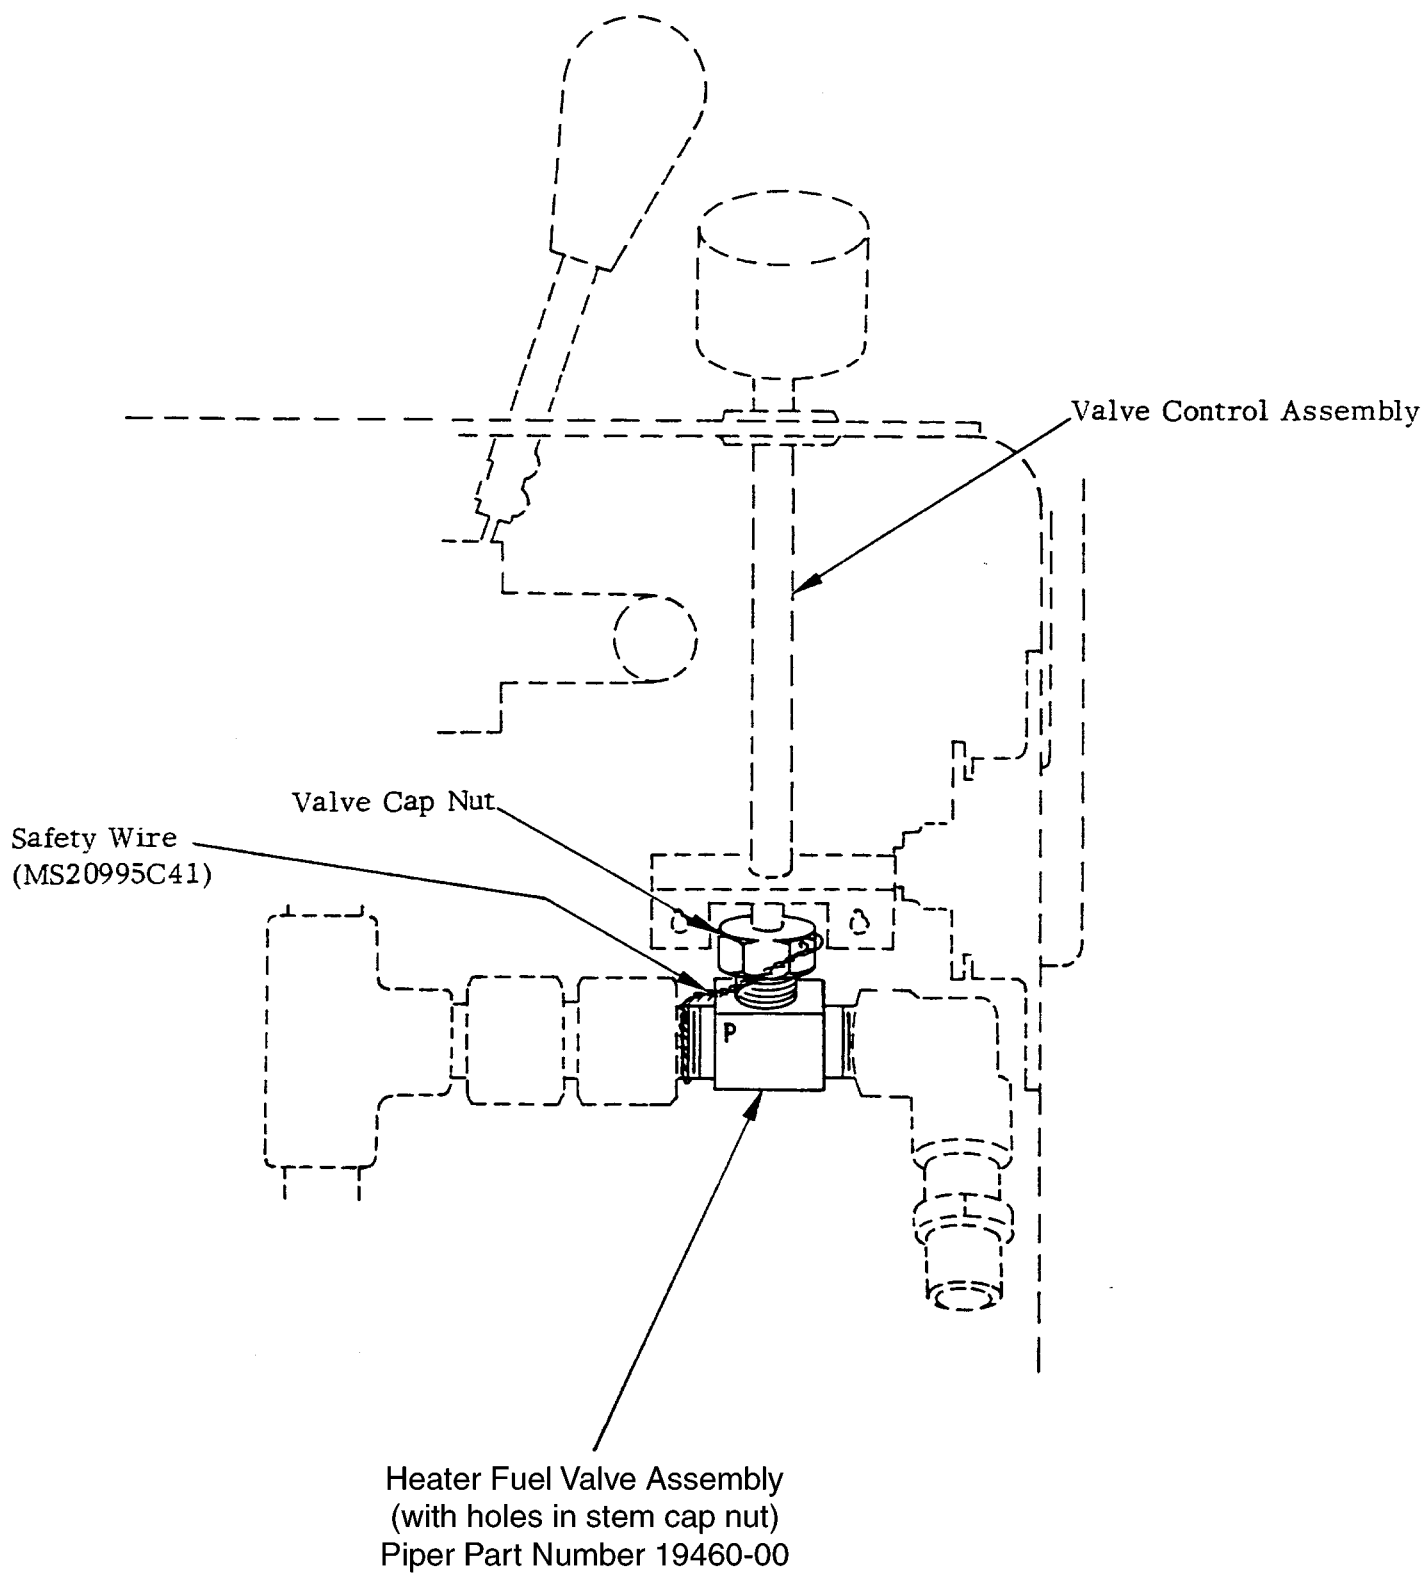

Figure 1
A situation has occurred where the heater fuel valve core “backed out” of the fuel valve, allowing leakage of fuel into the belly of the aircraft adjacent to the fuel system control box assembly. Adequate safetying of the fuel valve cap nut normally prevents the valve core from “backing out”; the current Apache and Aztec Service Manuals, Section XIII, Inspection and Repair of Heater Fuel Valves, illustrate and describe proper safetying of the fuel valve stem cap nut and also states that “if any part of the stem assembly is not drilled for safetying purposes, replace the assembly.” Refer to Figure 1 of this Service Bulletin for an illustration of proper safety wire installation on heater fuel valves with holes in the stem cap nut.
2. Inspect the stem and cap nut for proper safetying in accordance with Figures 1 or 2 (whichever applies) of this Service Bulletin.
5. If proper safetying is evident in accordance with Figures 1 or 2 (whichever applies) of this Service Bulletin, and no leakage is evident, the aircraft may be returned to service.